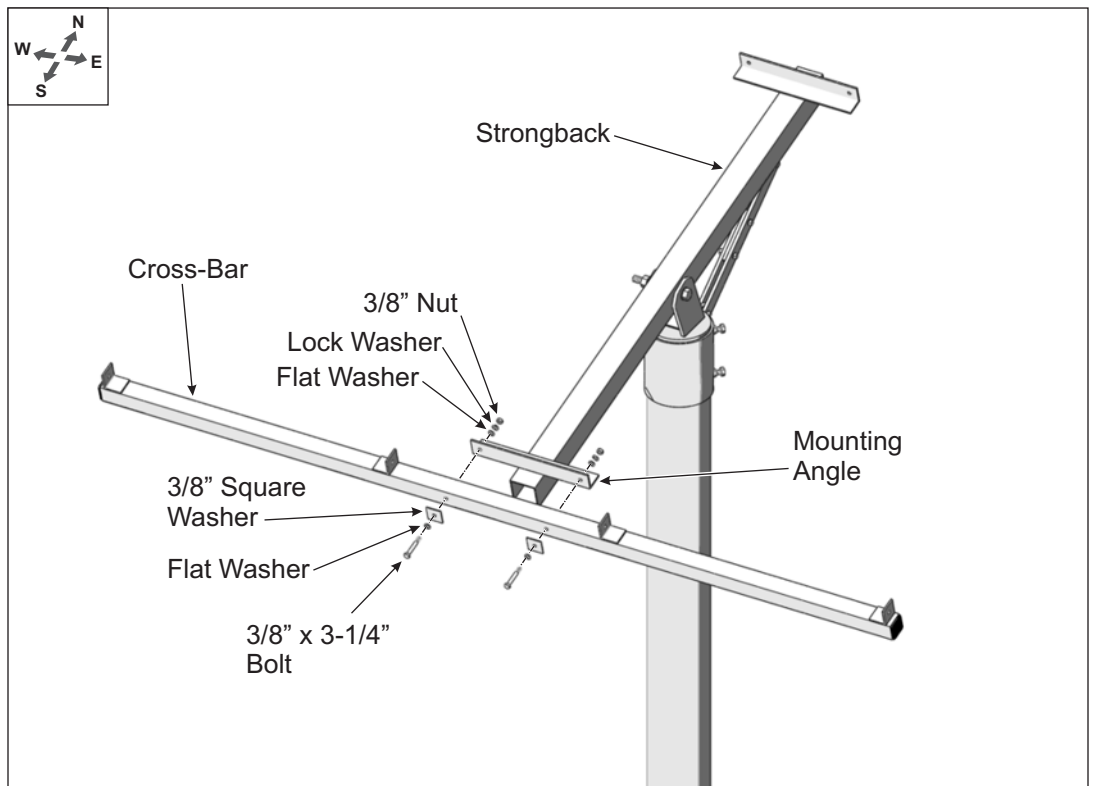

Figure 3-2: Installing Cross-Bars on the Strongback
- A. Position the Cross-Bar on the outside of the mounting angle of the Strongback. Align the mounting holes and secure using 3/8" flat and square washers along with the 3/8" x 3-1/4" bolts and lock washer placing the square flat washer against the Cross-Bar. Tighten hardware and **Torque to 30-32 ft.-lbs.** (See Figure 3-2)